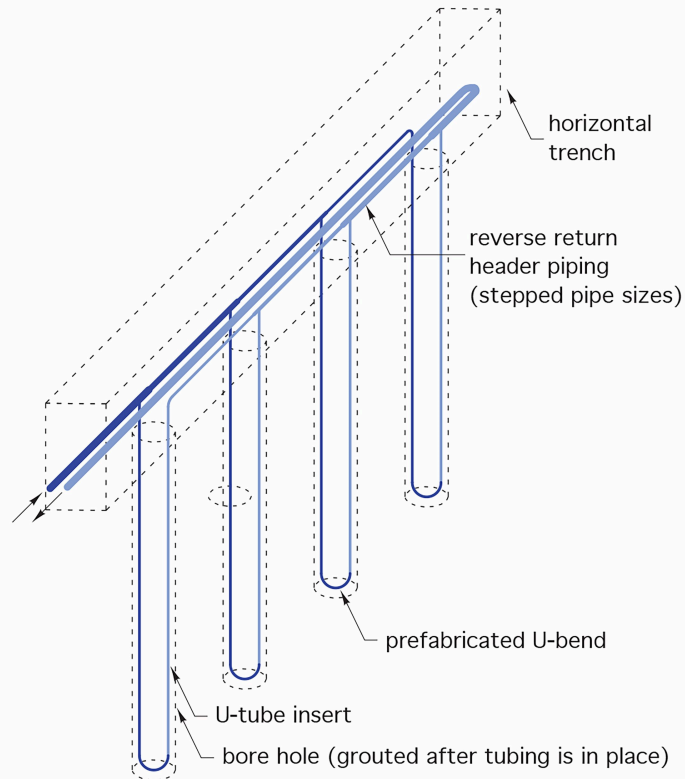

Figure 7 Field of boreholes with vertical loops
- Figure 7 An open-loop system using a lake as the source © Caleffi Hydronic Solutions. Used with permission.
If there is insufficient area in which to install horizontal earth loops, such as in an urban neighbourhood, vertical earth loops are a viable option. Equipment that is similar or identical to that which is used by well drillers create 6-inch bore holes that can be many hundreds of feet deep. Figure 7 below shows an example of a vertical field of bore holes.